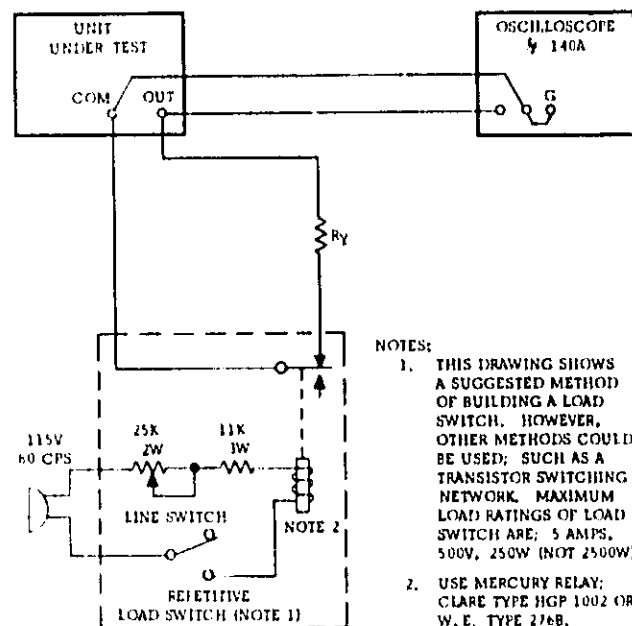

Figure 5-5. Transient Response, Test Setup
- Connect test setup shown in Figure 5-5.